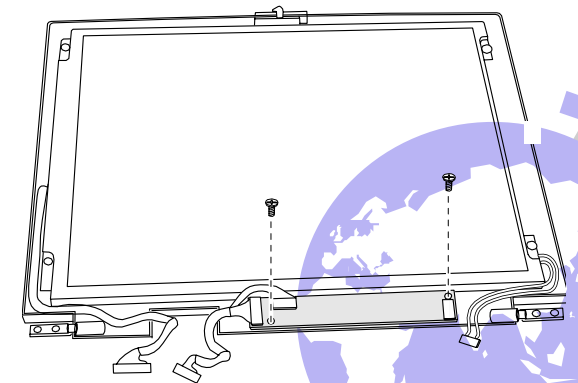

Figure 7-20. Removing the LED Board
1. Reconnect the connectors. Fit the LED board back into place and secure with two screws. (Refer to Figure7-20 )